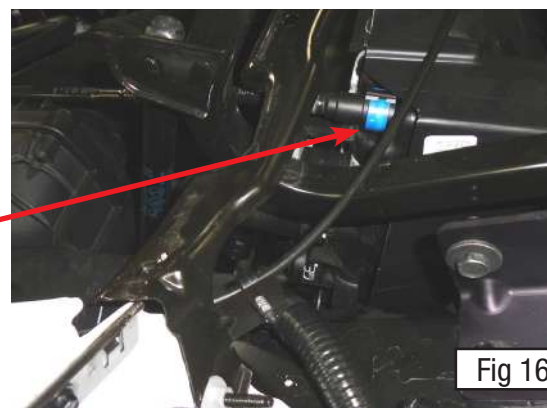

Fig 16.
18. Remove the vent line from the upper passenger side of the radiator by first releasing the blue plastic clip from the line, and then remove the line from the radiator (Fig. 16).